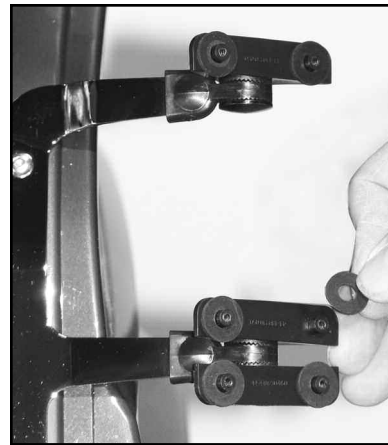

Figure 8
4. Install Neoprene Washers on studs. **Figure 8**